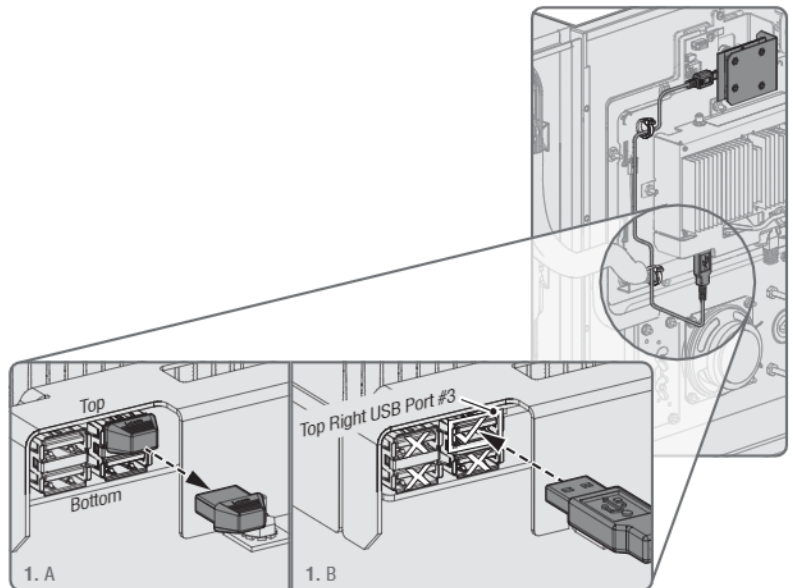

Figure 1. Removing the dust plug and connecting to USB Port #3 on the upper right side of the controller.
5. Use pliers to unplug the upper right dust plug from USB socket on control board (controller). (Figure 1.A)
6. **USB PORT #3 MUST BE USED** to connect the camera. The Micro USB end of the USB cable goes into the camera and the standard USB end of the cable specifically connects to USB port 3, (the upper right USB port on the controller.) (See Figure 1.B)